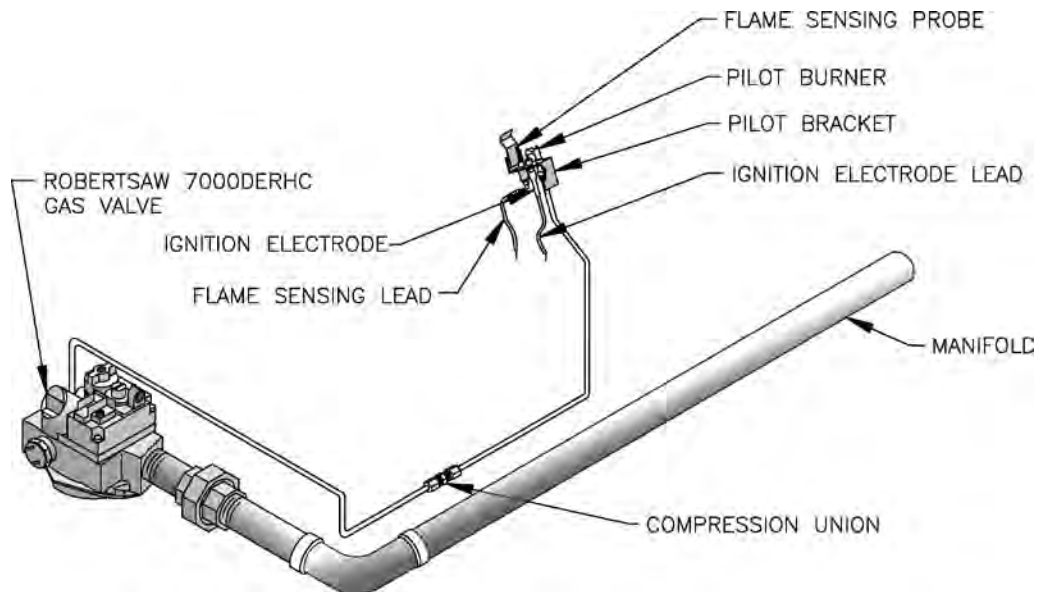
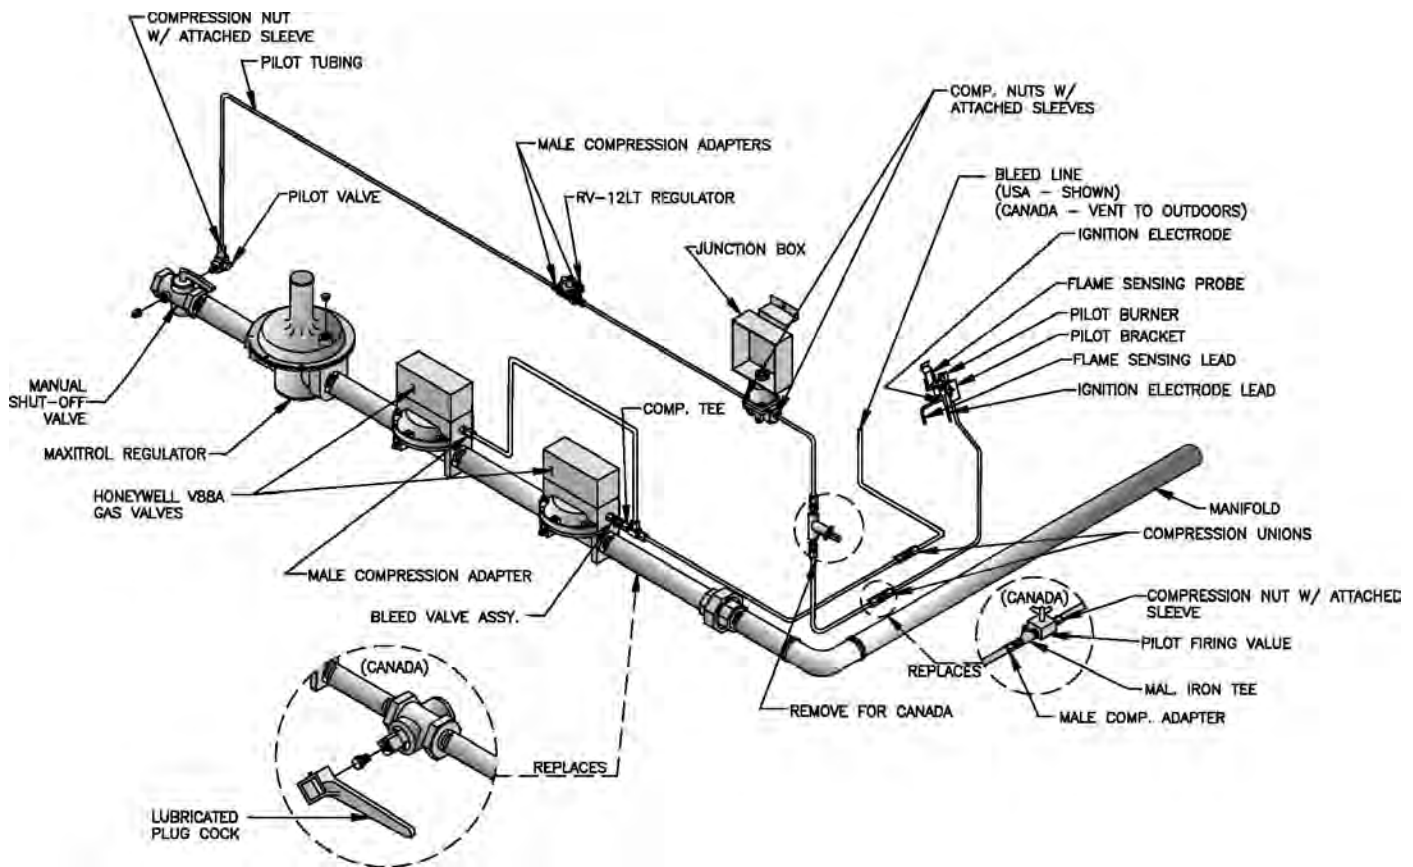

FIG. 29
FIG. 30
1. **INSTALLATION OF GAS VALVE TRANSFORMER AND PILOT PIPING** (for Robertshaw Pilot Piping, see Fig. 29) – Attach the bracket for mounting of the junction box to the lower front corner of the Jacket Upper End Panel using two #10-32 x ½" MS and nuts. Mount junction box to bracket using #8 SMS, see Fig. 25 or 26. Connect pilot solenoid valve to bottom center knockout of J-box using conduit fittings furnished, (V88 Gas Train only) see Fig. 30. Mount transformer on J-box. If Foot Mounted Transformer, connect to
Using ¼" OD aluminum tubing, connect the inlet of the pilot solenoid valve to the pilot valve installed in the manual shut off valve in the Gas Train. Using ¼" aluminum tubing, complete installation to Pilot Burner, see Fig. 30 (V88 Gas Train only).
2. INSTALLATION OF BLEED PIPING (V88 Gas Train only) – Using 1/4" OD aluminum tubing, install a bleed line on both diaphragm gas valves, connect together, and, on USA boilers, run tubing to bleed line protruding from inside base, see Fig. 30. On boilers installed in Canada, run bleed line to outdoors.